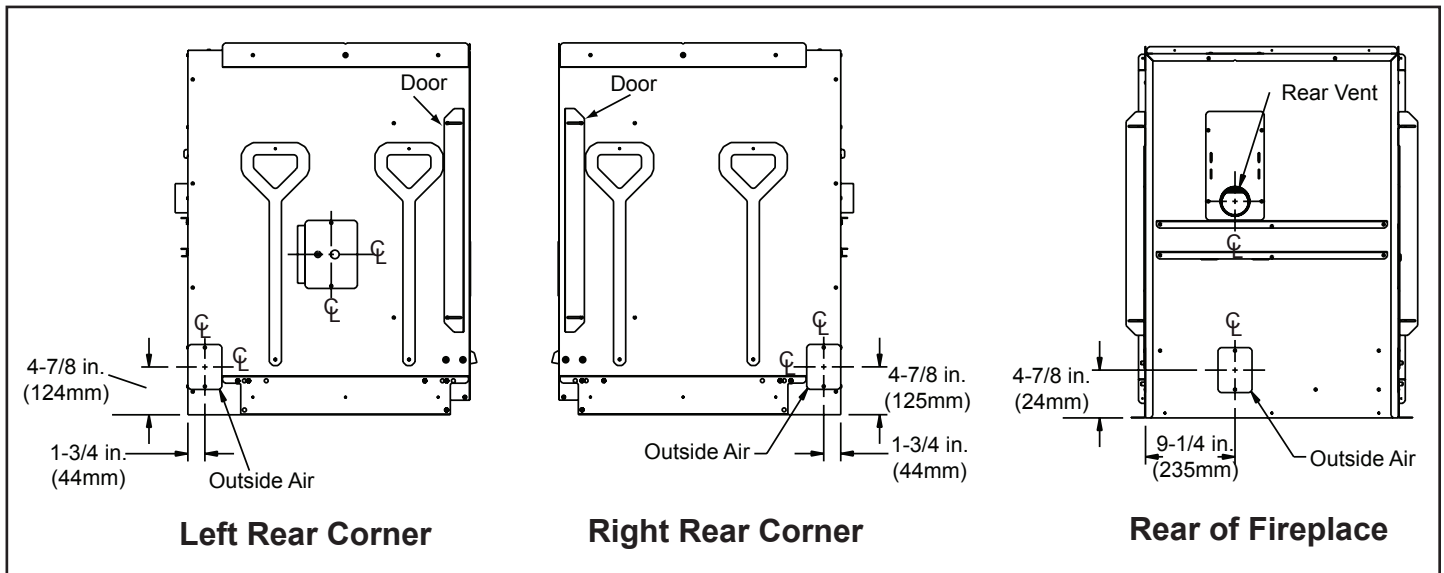

Figure 42.1 - Outside Air Inlet Locations
- The outside air kit can be installed in three different locations - the left or right side or from the back of the fireplace. **Figure 42.1 on page 42.**